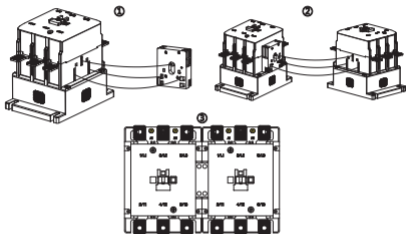

Figure 10 Installation method of mechanical interlocking MI
(4) The installation method of MI mechanical interlocking is shown in Figure 10:
- ① Installing MI
- ② Install another contactor as shown in the figure
- ③ Install the fixed module as shown in the figure
- ④ Fix the two contactors with fastening screws, nuts, and connecting plates as shown in the figure